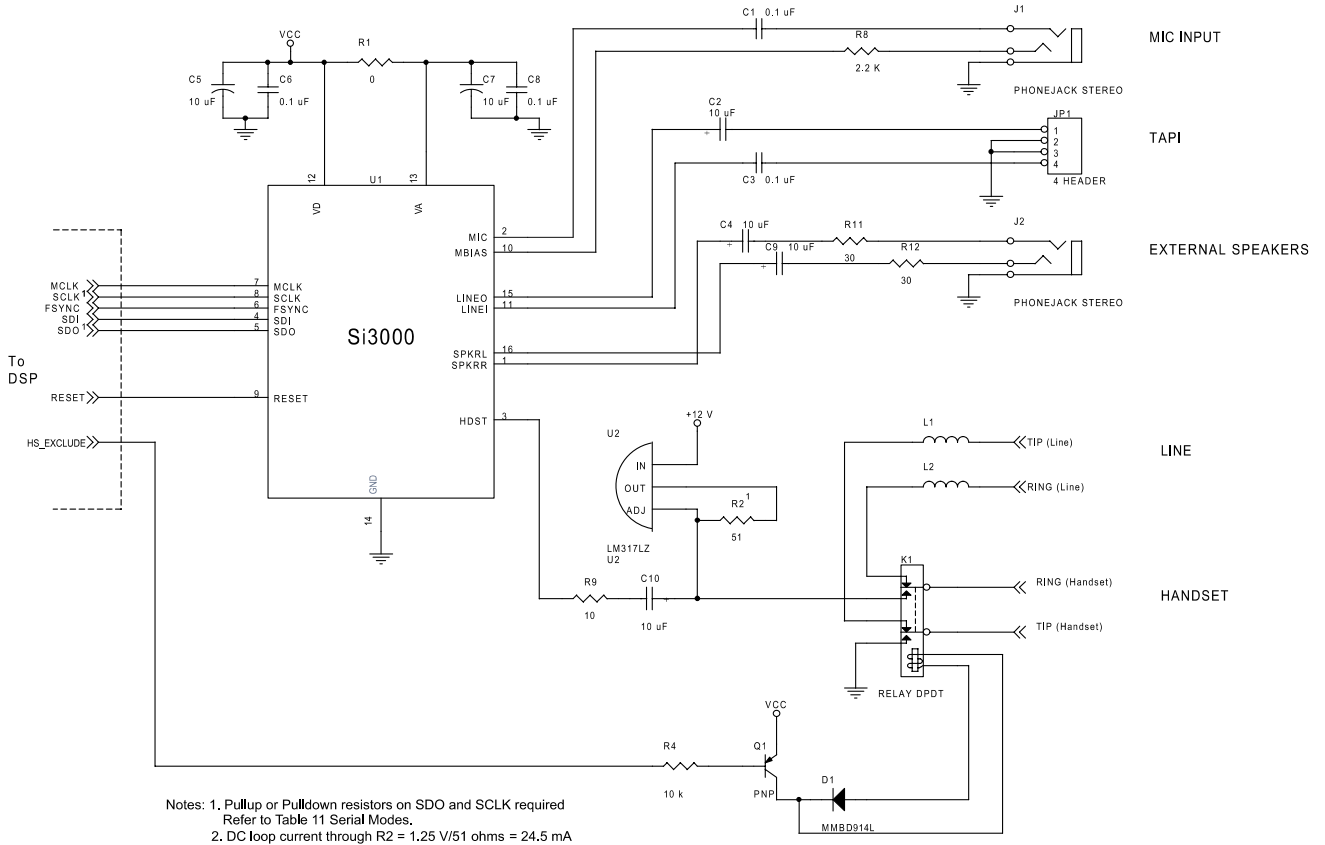

Figure 13. Si3000 Typical Application Circuit
5. These characteristics are determined by external components. See Figure 13.
The Si3000 can be connected directly to the Si3035, Si3034, Si3044 in modem applications requiring a voice channel, or the device can be used as a stand-alone codec in other voice band applications. The Si3000 offers high integration, and it needs only a few low cost, discrete components as shown in Figure 13.
The typical connection diagram (Figure 13) shows the recommended external analog circuitry for the Si3000. The device supports three mono analog inputs—line level, microphone level, and a handset input. Each of these inputs is provided to a mixer circuit prior to A/D conversion. Each analog input may also be muted by writing the appropriate bits in the control registers. Unused analog inputs should be tied to GND through a 0.1  $\mu\text{F}$  capacitor. This prevents any DC current flow.
LINEO is a line level analog output signal centered around a common mode voltage. The minimum recommended load impedance is 600  $\Omega$ . This output is a fully filtered output with a 1 Vrms full scale range. The only external component required is the 10  $\mu$ F DC blocking capacitor shown in Figure 13 on page 12. This output may be muted through the LOM bit in register 6 or attenuated by setting the analog attenuation bits in register 9.
The SPKRL and SPKRR analog outputs are capable of driving a small loudspeaker whose impedance is typically 32  $\Omega$  (see Figure 13 on page 12). The speaker outputs may be muted through the SLM and SRM bits in the DAC Gain Control register 7 or attenuated by setting the analog attenuation bits in register 9.
The Si3000 has two serial interface modes that support most standard modem DSPs. These modes are selected by the addition of a 50 k $\Omega$  pull-down/up resistor on the SDO and SCLK pins as shown in Figure 13 on page 12. To determine the mode, the Si3000 reads SDO and SCLK on the first rising edge of MCLK after  $\overline{\text{RESET}}$  goes low. The key difference between these two serial modes is the operation of the  $\overline{\text{FSYNC}}$  signal. Table 11 summarizes the serial mode definitions.